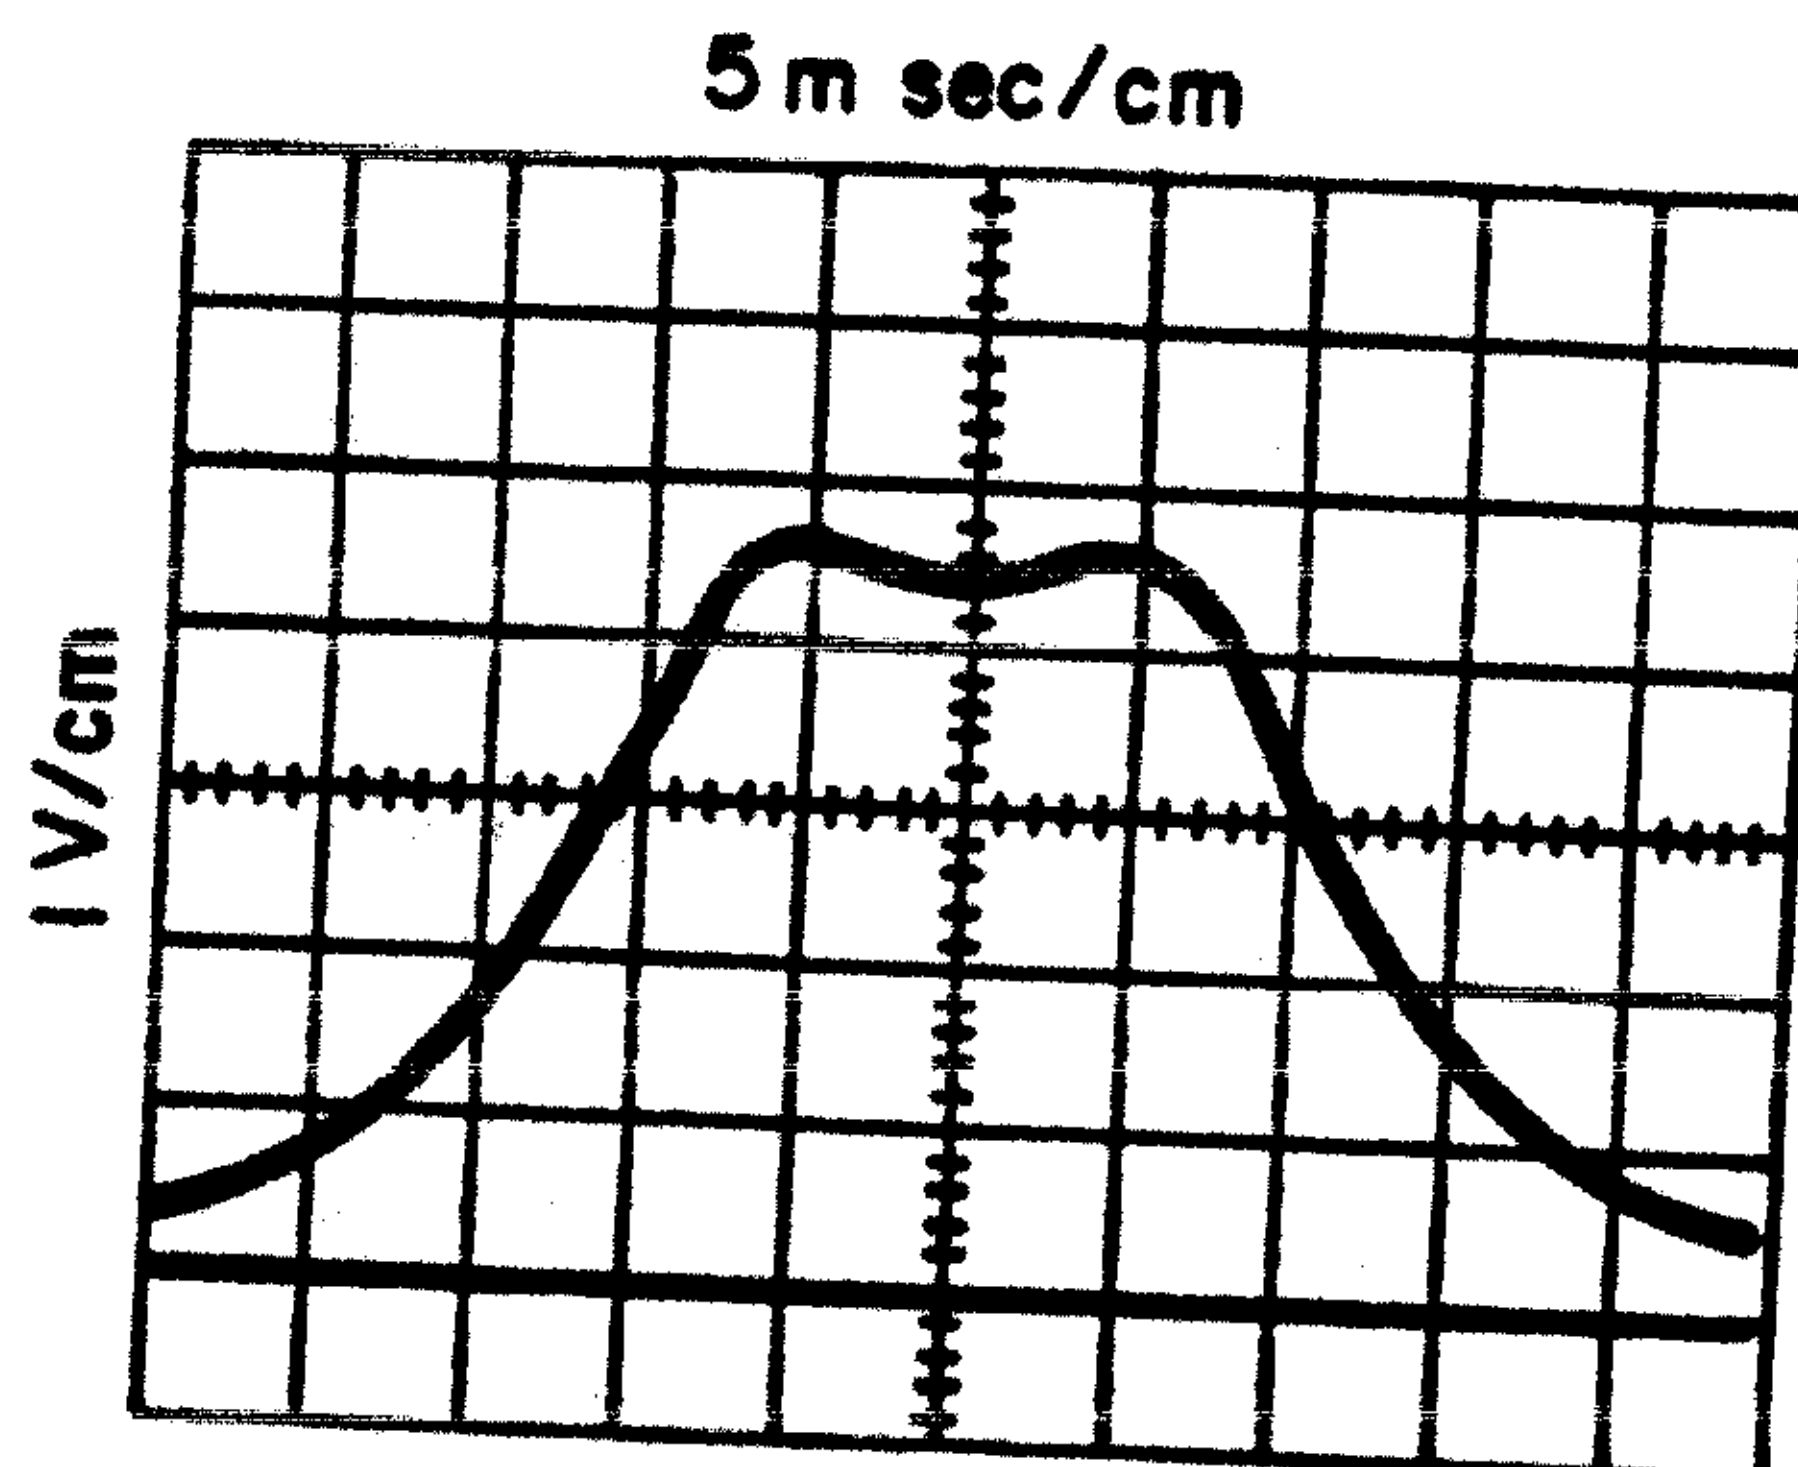

Figure 4-6. 455 kHz Amplifier/AM Detector Response Alignment, Typical Response
8. Adjust A4A7L2 and A4A7L3 for an Oscilloscope waveform which has maximum amplitude and is symmetrical about the marker. See Figure 4-6 for a typical waveform.